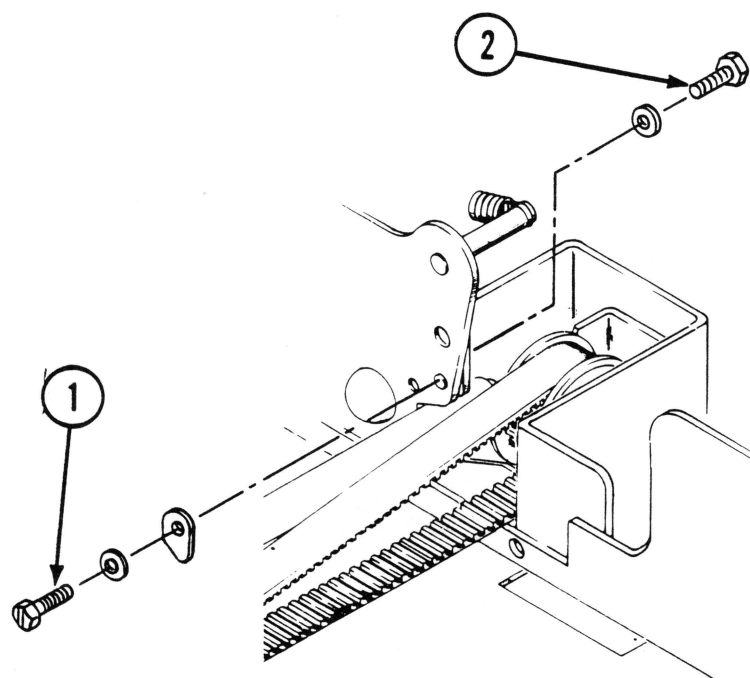

FIGURE 10
10. Use either a screwdriver or a 1/4 inch wrench to loosen the two locking plate screws (one on each side of the frame) that hold the rear guide shaft (see Figure 10, #1).
11. Use a 1/4 inch wrench to remove the outer screw on the right side of the frame (see Figure 10, #2).